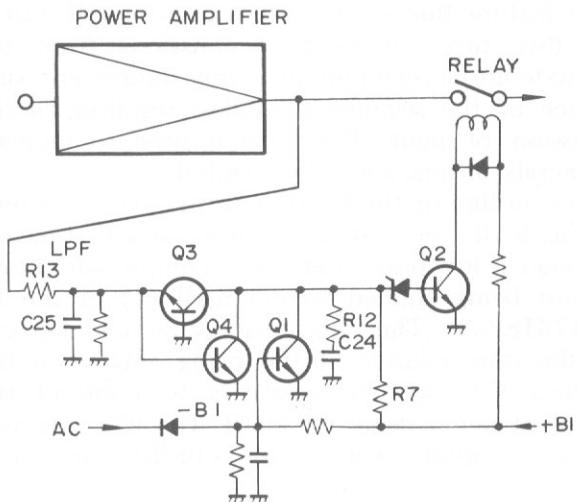

Fig. 5-11 Protection Circuit
With reference to Fig. 5-11 when the power supply is turned on, Q_1 turns off due to $-B_1$ (The time constant of the $-B_1$ circuit is very small.). If there is no input (DC) on Q_3 and Q_4 , they will be off, and the timing capacitor C_{24} charges up through R_7 and R_{12} , and thus Q_2 turns on. When Q_2 conducts, the relay operates, and the output muting on the power amplifier will be removed.